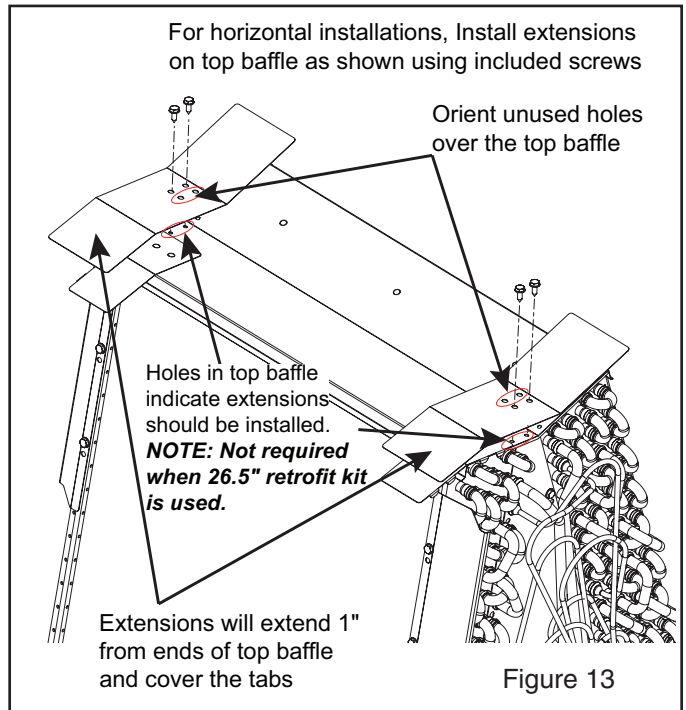

Figure 13
2. When included and applicable, install top baffle extensions. See Figure 13.
6. When included and applicable, install top baffle extensions. See Figure 13.